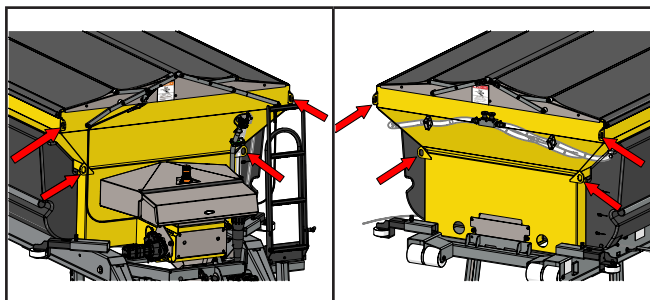

Figure 9
12. Figure 9 - Secure spreader to chassis and dump body with ratchet straps, mounting to the securing hooks located at each corner of the spreader, on the top and the sides.
The hydraulic valve, located in enclosure at rear of spreader, connects to truck via the two hoses listed below (Figure 8). Hoses are provided with the spreader but should be fitted with quick connects provided and installed by dealer on truck. Refer to Figure 9 and the "Hydraulic Schematic" page in the Troubleshooting section of this manual.